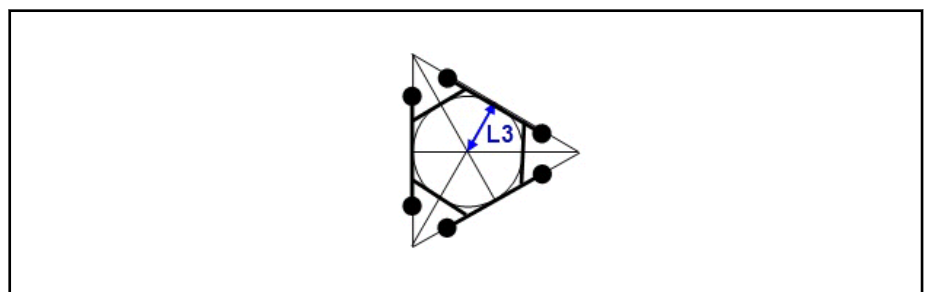

Fig. 4-26: Radius L3 of the die plate
- L_3 is the radius of the inner circle of the equilateral triangle on the plate. The equilateral triangle is defined by the reference points of the rods. The radius has to be at least L_2 (see fig. 4-26 "Radius L_4 of the die plate" on page 135)